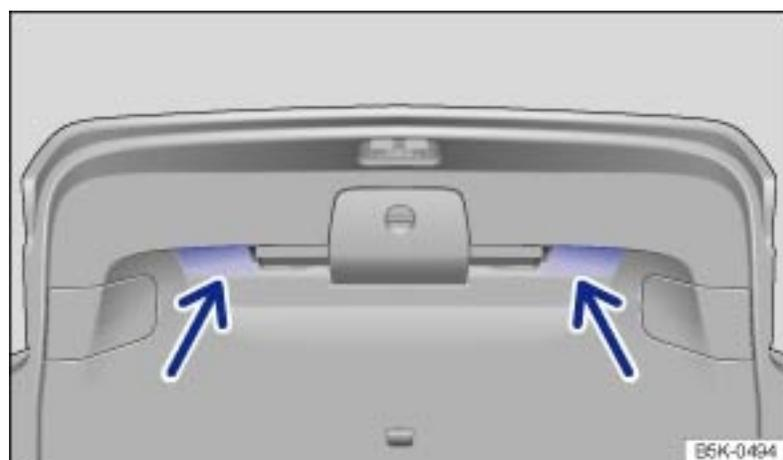

Fig. 34 Opened rear hatch: Recessed grips for closing.
- ▶ Grasp one of the recessed grips in the rear hatch trim → Fig. 34 (arrows).